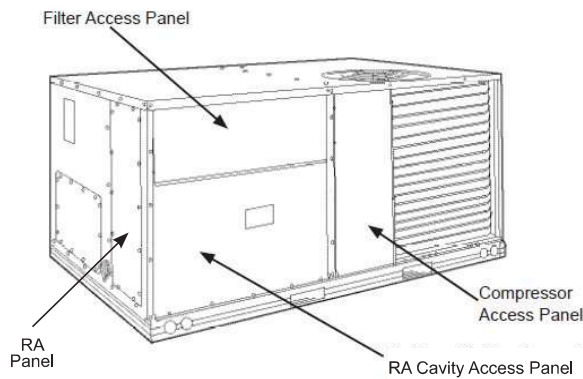

Fig. 1 - Access Panel Identification (Typical)
2. Remove the Filter Access (upper) Panel, Blower Access Panel, and Control Panel. Set aside for later re-installation - See **Fig. 1 & 2**.
3. Remove the Return Air (RA) Cavity (lower) Panel and discard - See **Fig. 1**.